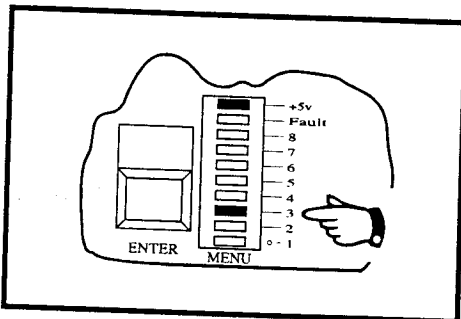
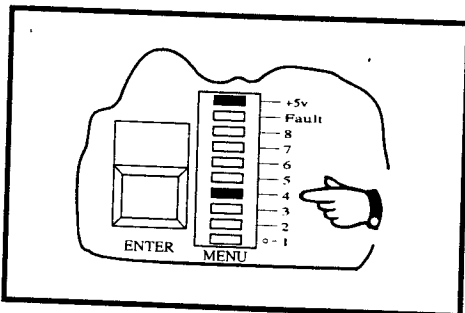

Figure 3-8
Figure 3-9
- (b) Press the blue **FUNCTION** key **THREE** times. The **Menu** display should cease scrolling and the segment labelled **3** should illuminate. This segment identifies the SP#1 menu function. See Figure 3-8. If you wish to programme SP#2, press the **FUNCTION** key **FOUR** times. The segment labelled **4** should illuminate. See Figure 3-9.
- (c) Press the green **ENTER** key **ONCE**. This selects either the SP#1 or SP#2 menu function. The bar graph should indicate the present setting of the setpoint. Refer to Figures 3-8 and 3-9.